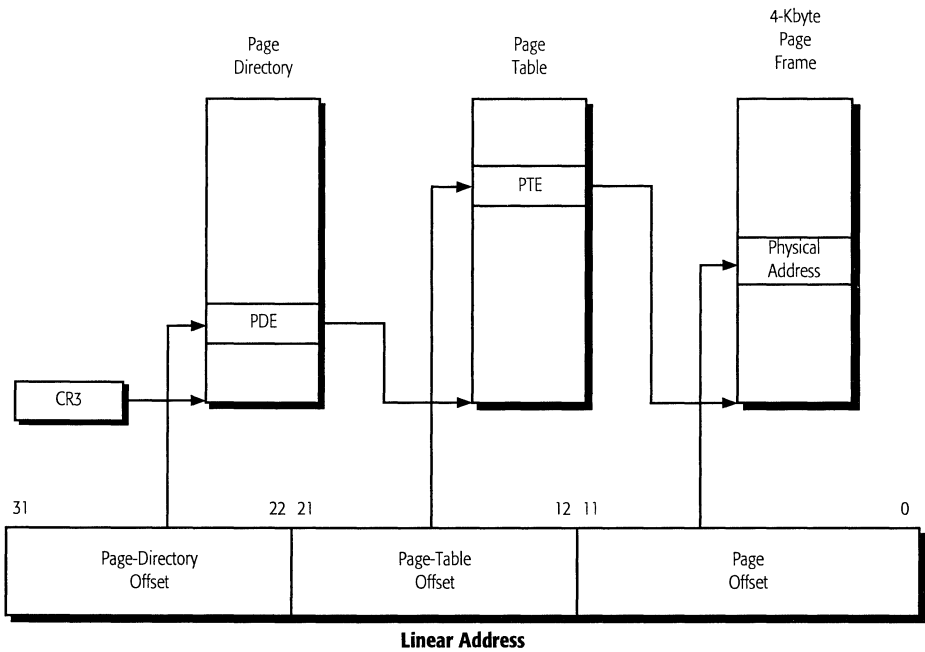

Figure 14. 4-Kbyte Paging Mechanism
The TLBs in the 486 and 386 processors support only 4-Kbyte pages. However, large data structures, such as a video frame buffer or non-paged operating system code, can consume many pages and easily overrun the TLB. The AMD-K5 processor accommodates large data structures by allowing the operating system to specify 4-Mbyte pages as well as 4-Kbyte pages, and by implementing a four-entry, fully-associative 4-Mbyte TLB that is separate from the 128-entry, 4-Kbyte TLB. From a given page directory, the processor can access both 4-Kbyte pages and 4-Mbyte pages, and the page sizes can be intermixed within a page directory. When the Page Size Extension (PSE) bit in CR4 is set, the processor translates linear addresses using either the 4-Kbyte TLB or the 4-Mbyte TLB, depending on the state of the page size (PS) bit in the page-directory entry. Figures 14 and 15 show how 4-Kbyte and 4-Mbyte page translations work.
- **4-Kbyte Paging (Figure 14)**—Bits 31–22 of the linear address select an entry in a 4-Kbyte page directory in memory, whose physical base address is stored in CR3. Bits 21–12 of the linear address select an entry in a 4-Kbyte page table in memory, whose physical base address is specified by bits 31–22 of the page-directory entry. Bits 11–0 of the linear address select a byte in a 4-Kbyte page, whose physical base address is specified by the page-table entry.